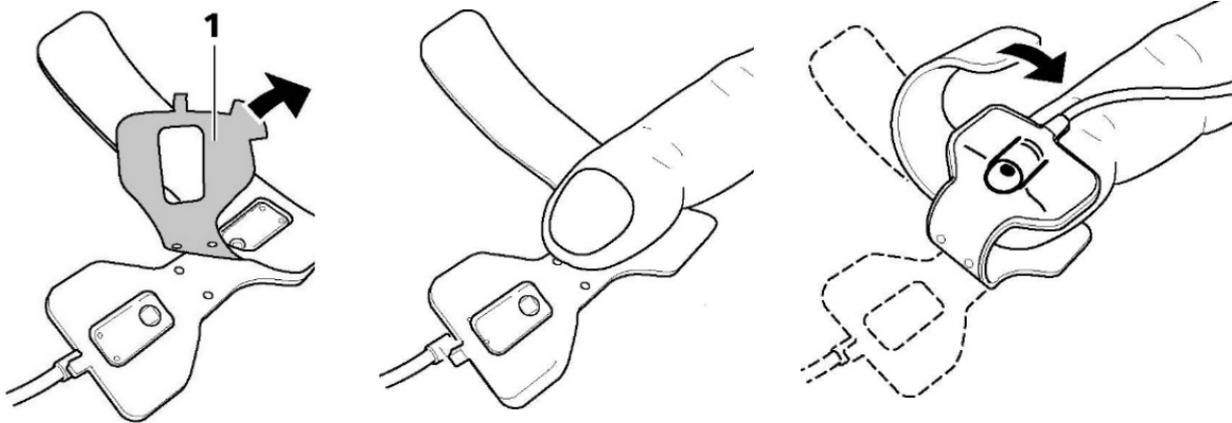

Figure 21: Attaching the oximeter probe to the finger
- Remove the paper backing from the oximeter probe (see 1 in Figure 21). Attach the probe to the index finger of the patient's non-dominant hand, as shown below.